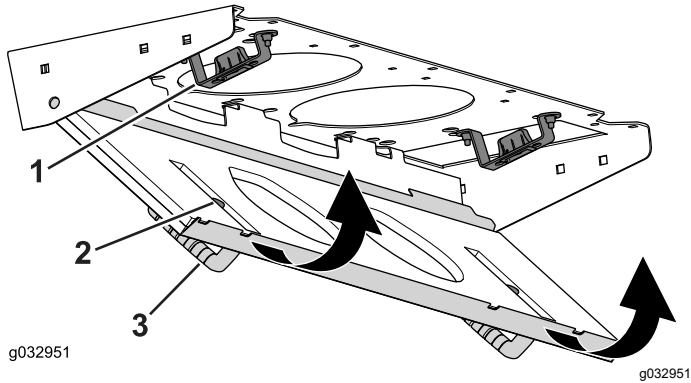

Figure 87
4. Rotate the filter screen around the tabs until the latch locks into the latch-mount assembly (Figure 87).